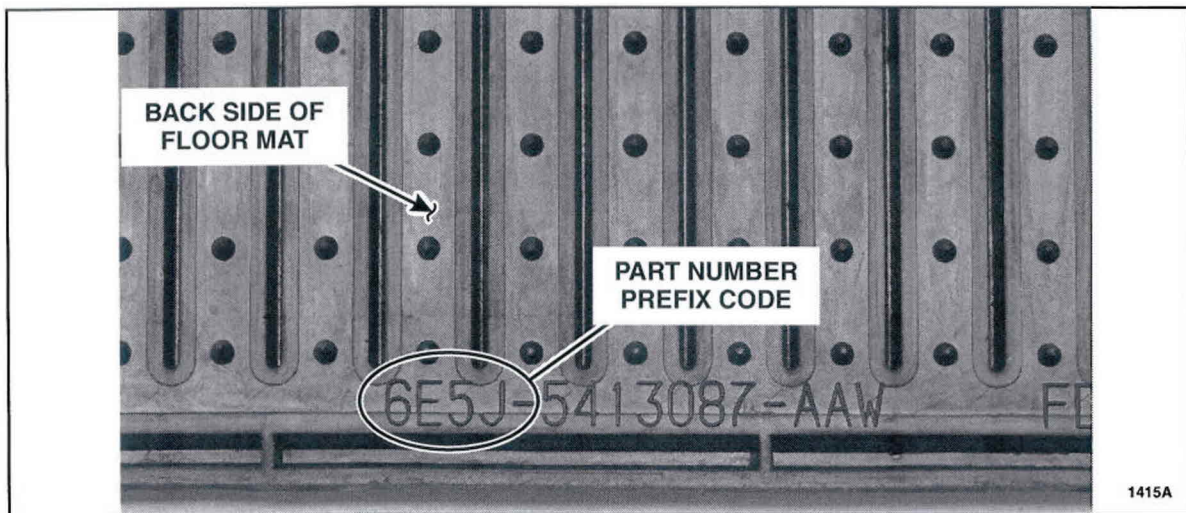

FIGURE 1
1. Remove the driver side floor mat from the vehicle and inspect the part number prefix code on the back of the mat for one of the following prefix codes. See Figure 1.